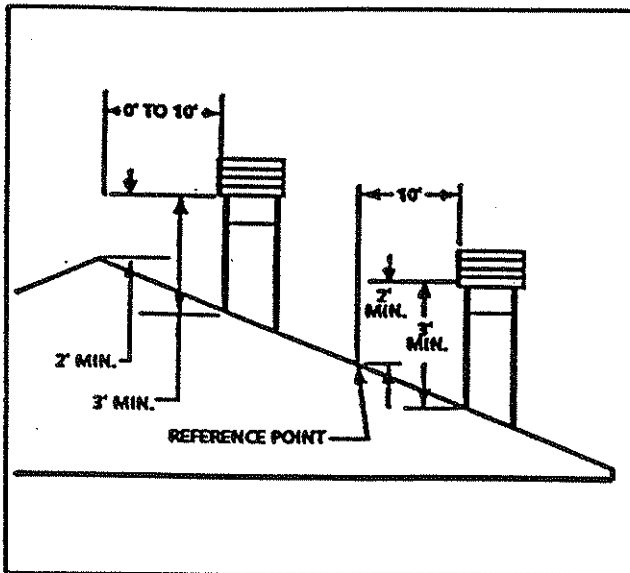

FIGURE 17
WARNING: Major U.S. building codes specify minimum chimney and/or vent height above the roof top. These minimum heights are necessary in the interest of safety. These specifications are summarized in the ten foot rule. (See Figure 17.)
2. If a horizontal distance from the edge of the vent of chimney to the peak of the roof is more than 10 feet, a vent or chimney height reference point is established that is on the surface of the roof a distance of 10 feet from the edge of the vent or chimney in a horizontal plane. (See Figure 17.) The bottom of the vent cap must be at least 2 feet above this reference point, but never less than 3 feet in height above the highest point where it passes through the roof.